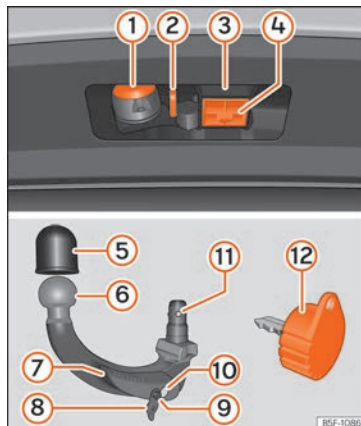

Fig. 251 Towing bracket device support / detachable ball joint / key.
Key to »» Fig. 251
- Remove the hook housing cap **(4)** >>> **Fig. 251** downwards.